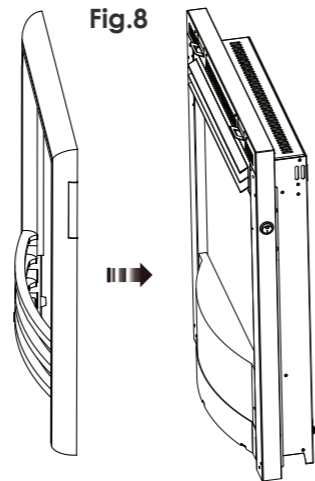
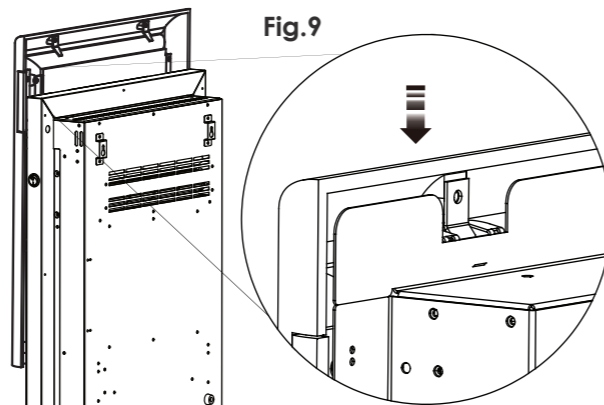

Fig.8
Fig.9
4. Hook the frame into the holes of the bends. Ensure that the hooks engage in the holes with the weight of the fire frame being borne by the floor or hearth. (Fig.8, Fig. 9, and Fig. 10)